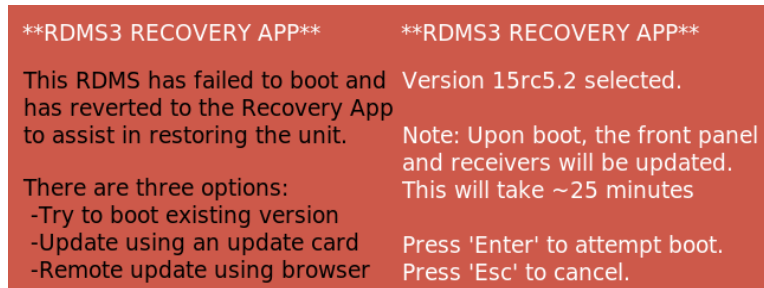

Figure 328: RDMS3 Recovery Application Front Panel, Version Selected
2. Press Enter to confirm and begin the reboot process, as shown in Figure 328.